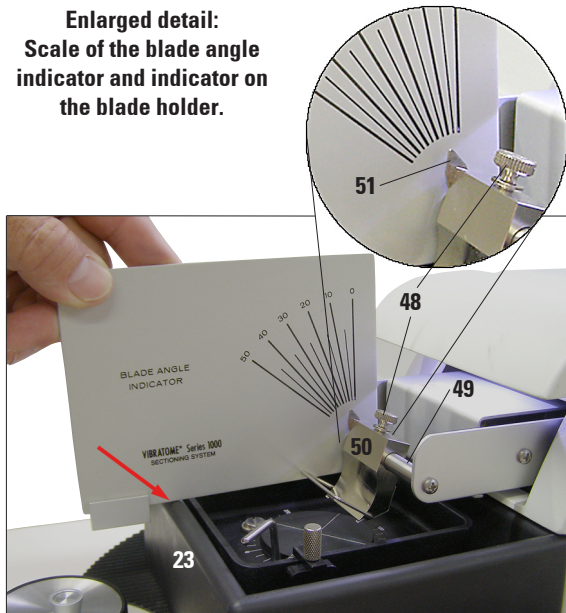

Fig. 41
- For the adjustment, first unscrew the knurled screw (48) on the blade holder with a screw driver. (Fig. 41).
- During the adjustment, it is important that the bottom edge of the blade angle indicator is touching the main specimen bath. (23) (arrow in Fig. 41). For this purpose, it may be necessary to move the cutting head forward.
- Now, rotate the blade holder until the small indicator (51) specifies the desired value on the scale of the blade angle indicator.